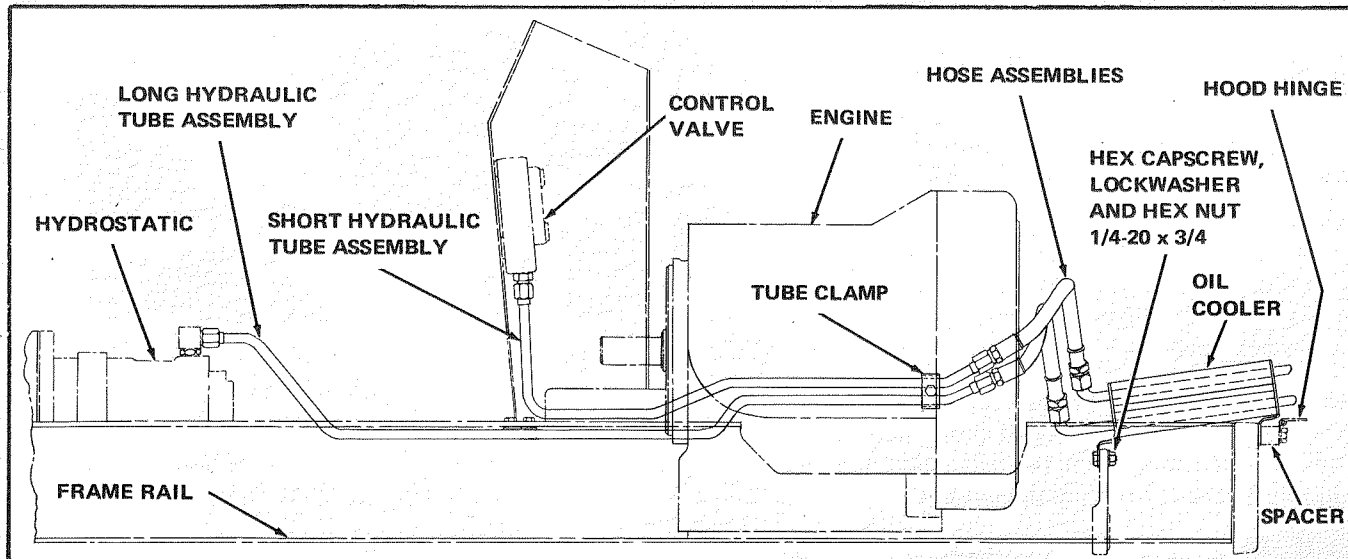

Figure 3
6. Install short tube assembly. Connect to port on control valve from which hydrostatic line was removed in step 3. See figures 3 and 4.
7. Remove baffle plate on lower Right side of engine. Remove hex capscrew from lower Right Hand corner of engine shroud; see figures 3 and 5. Place one composition washer under both tubes in a vertical position at this point. Place second composition washer over both tubes in a vertical position and secure with double tube clamp, hex capscrew 1/4-20 x 1-1/4 and lock-washer; see figures 3 and 5.
9. Place cooler over top of axle support as shown in figures 3, 6 and 7. Place rear leg of cooler between the axle support and the nuts on the belt guide and cap-screw in step 8 above. Securely tighten both nuts.